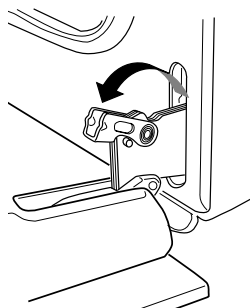

Fig. 2
3. unlock and turn the small levers located on the two hinges (Fig. 2);